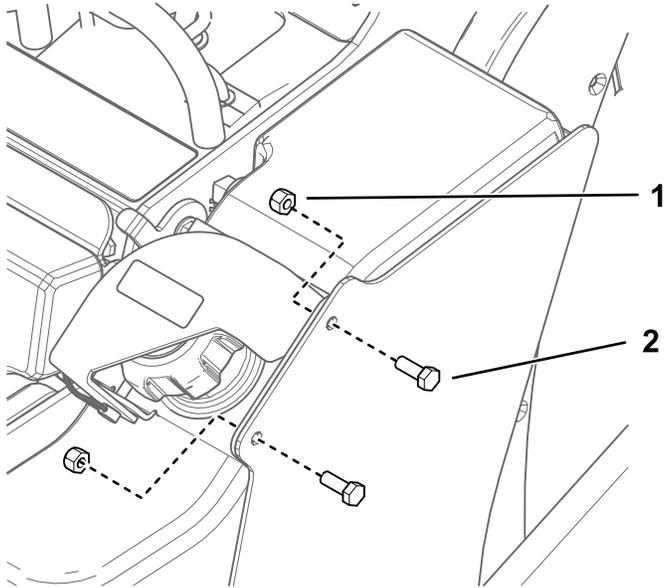

Figure 1
1. Remove the 2 bolts and locknuts from the fuel tank lock plate to the machine (Figure 1). Retain the locknuts.